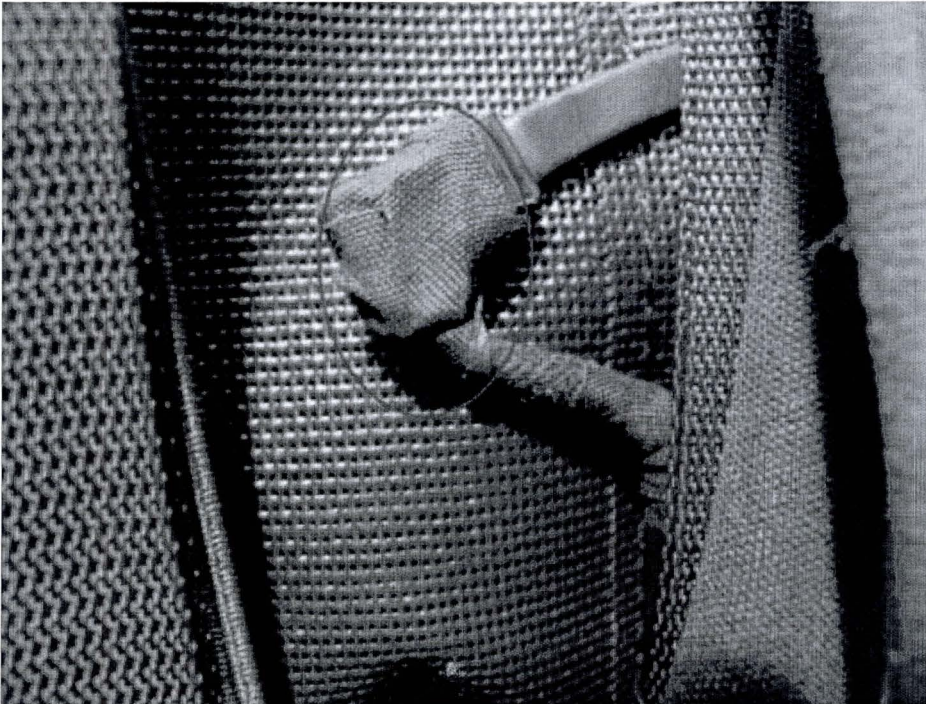

Figure 3
3. Wrap the terminal housing and extend the insulation tape down onto the harness (see Figure 3)